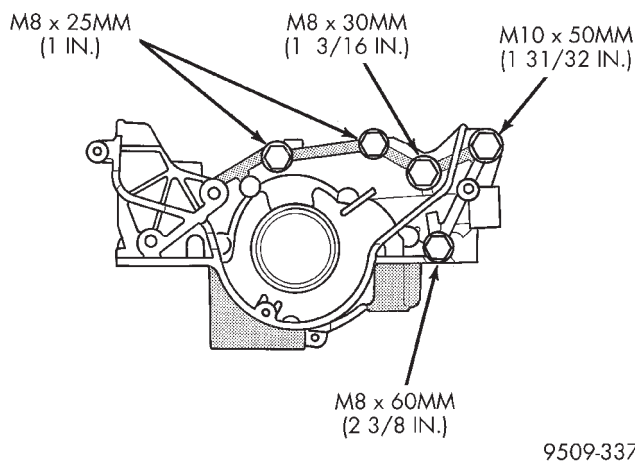

Fig. 76 Oil Pump Assembly
- (1) Remove accessory drive belts. Refer to Group 7, Cooling System for procedure.
- (2) Remove crankshaft damper. Refer to procedure in this section.
- (3) Remove Timing Belt. Refer to procedure in this section.
- (4) Remove bolts that attach oil pump to block (Fig. 76).
- (4) Install oil pump slowly onto crankshaft until seated to engine block. Tighten fasteners to M8 bolts 14 N·m (10 ft. lbs.) M10 bolts 41 N·m (30 ft. lbs.). See (Fig. 76) for bolt location and length.